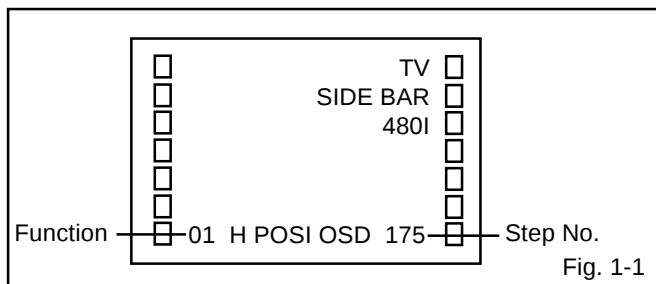

Fig. 1-1
2. Press the VOL. DOWN button on the set and the channel button **(9)** on the remote control for more than 2 seconds to display adjustment mode on the screen as shown in **Fig. 1-1**.
3. Activate the adjustment mode display of **Fig. 1-1** and press the channel button **(34)** on the remote control to select "CONTRAST MAX".
20. Activate the adjustment mode display of **Fig. 1-1** and press the channel button **(34)** on the remote control to select "CONTRAST MAX".
5. Activate the adjustment mode display of **Fig. 1-1** and press the channel button **(03)** on the remote control to select "R DRIVE(N)".
7. Adjust the LEFT/RIGHT button on the remote control to whiten the R CUT OFF(N), B DRIVE(N), B CUT OFF(N), R DRIVE(C), R CUT OFF(C)", B DRIVE(C), B CUT OFF(C), R DRIVE(W), R CUT OFF(W), B DRIVE(W) or B CUT OFF(W) at each step tone sections equally.
3. Activate the adjustment mode display of **Fig. 1-1** and press the channel button **(39)** on the remote control to select "CONTRAST 40".
20. Activate the adjustment mode display of **Fig. 1-1** and press the channel button **(39)** on the remote control to select "CONTRAST 40".